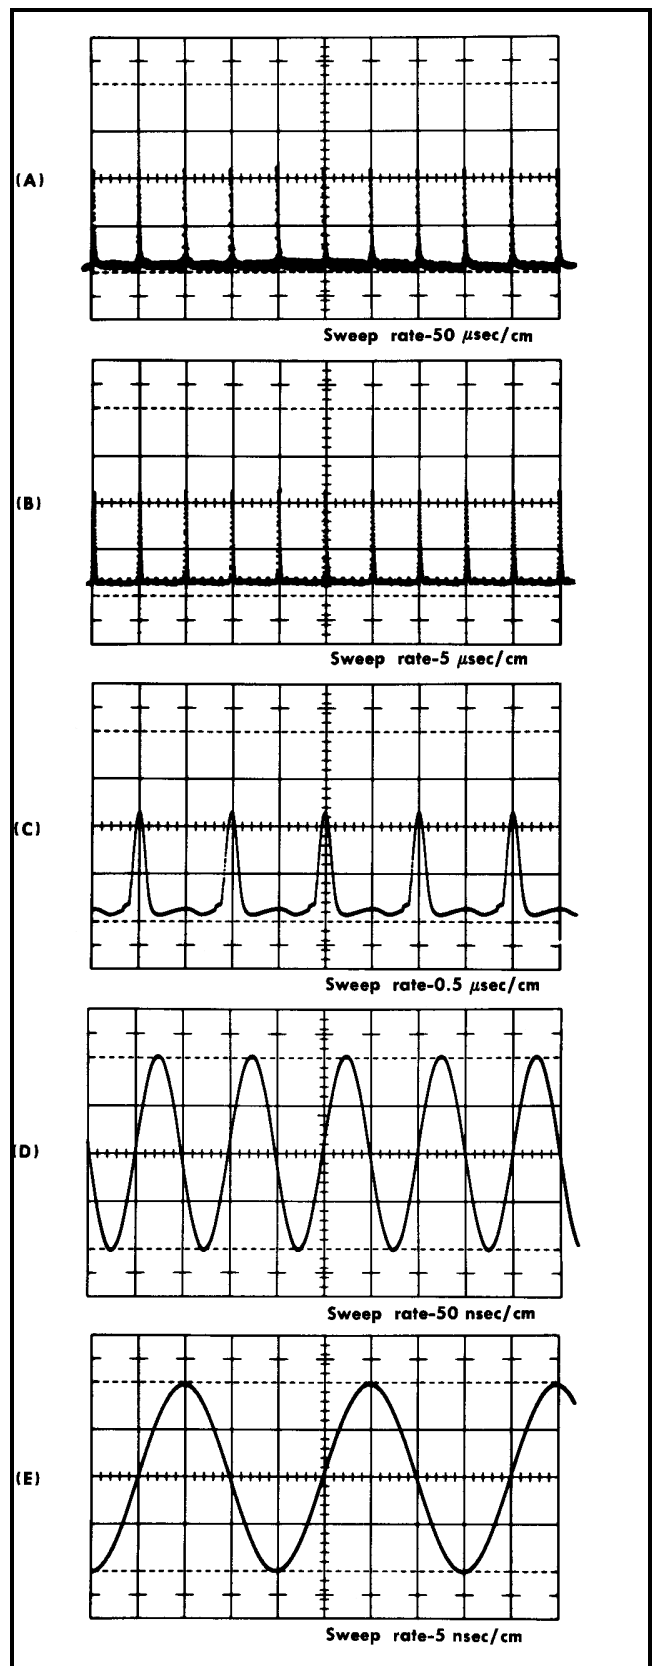

Fig. 5-56. Typical indicator Oscilloscope displays for checking fast ramp timing.
o. Check timing on each time position range as indicated in the table and in Fig. 5-56. Timing over the center 8 cm should be within 1 % on each range.